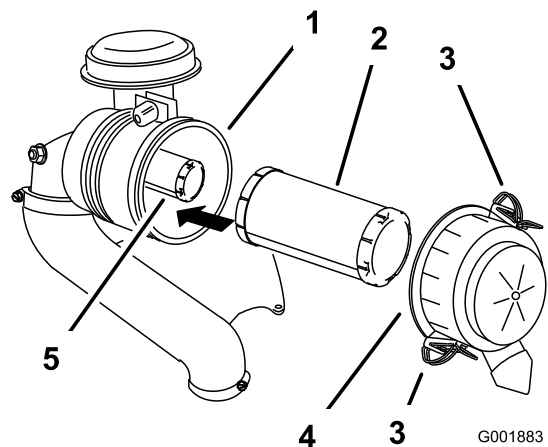

Figure 34
3. Release the latches on the air cleaner and pull the air-cleaner cover off the air-cleaner body (Figure 34).
5. Gently slide the primary filter out of the air-cleaner body (Figure 34).
2. If you are replacing the inner filter, carefully slide it into the filter body (Figure 34).
3. Carefully slide the primary filter over the safety filter (Figure 34).
4. Install the air-cleaner cover and secure the latches (Figure 34).